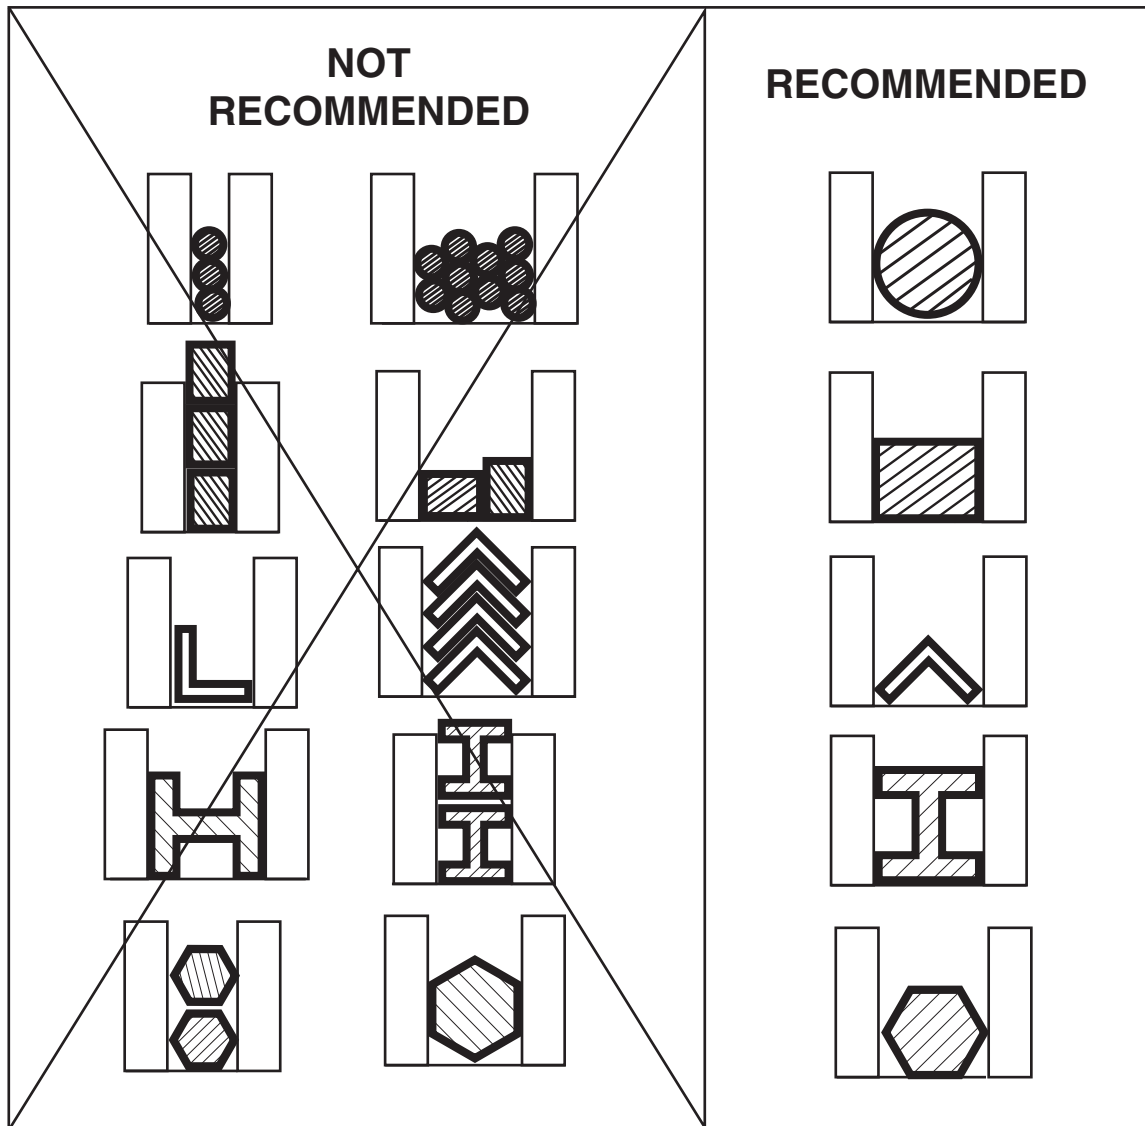

Figure 31. Vise clamping options.
6. Use the chart shown in **Figure 31** as a guide to quickly position the workpiece between the vise jaws correctly and to avoid slipping during a cut. **DO NOT CUT STEEL THAT IS STACKED OR BUNDLED.** One or more workpieces will slip and damage the saw blade.